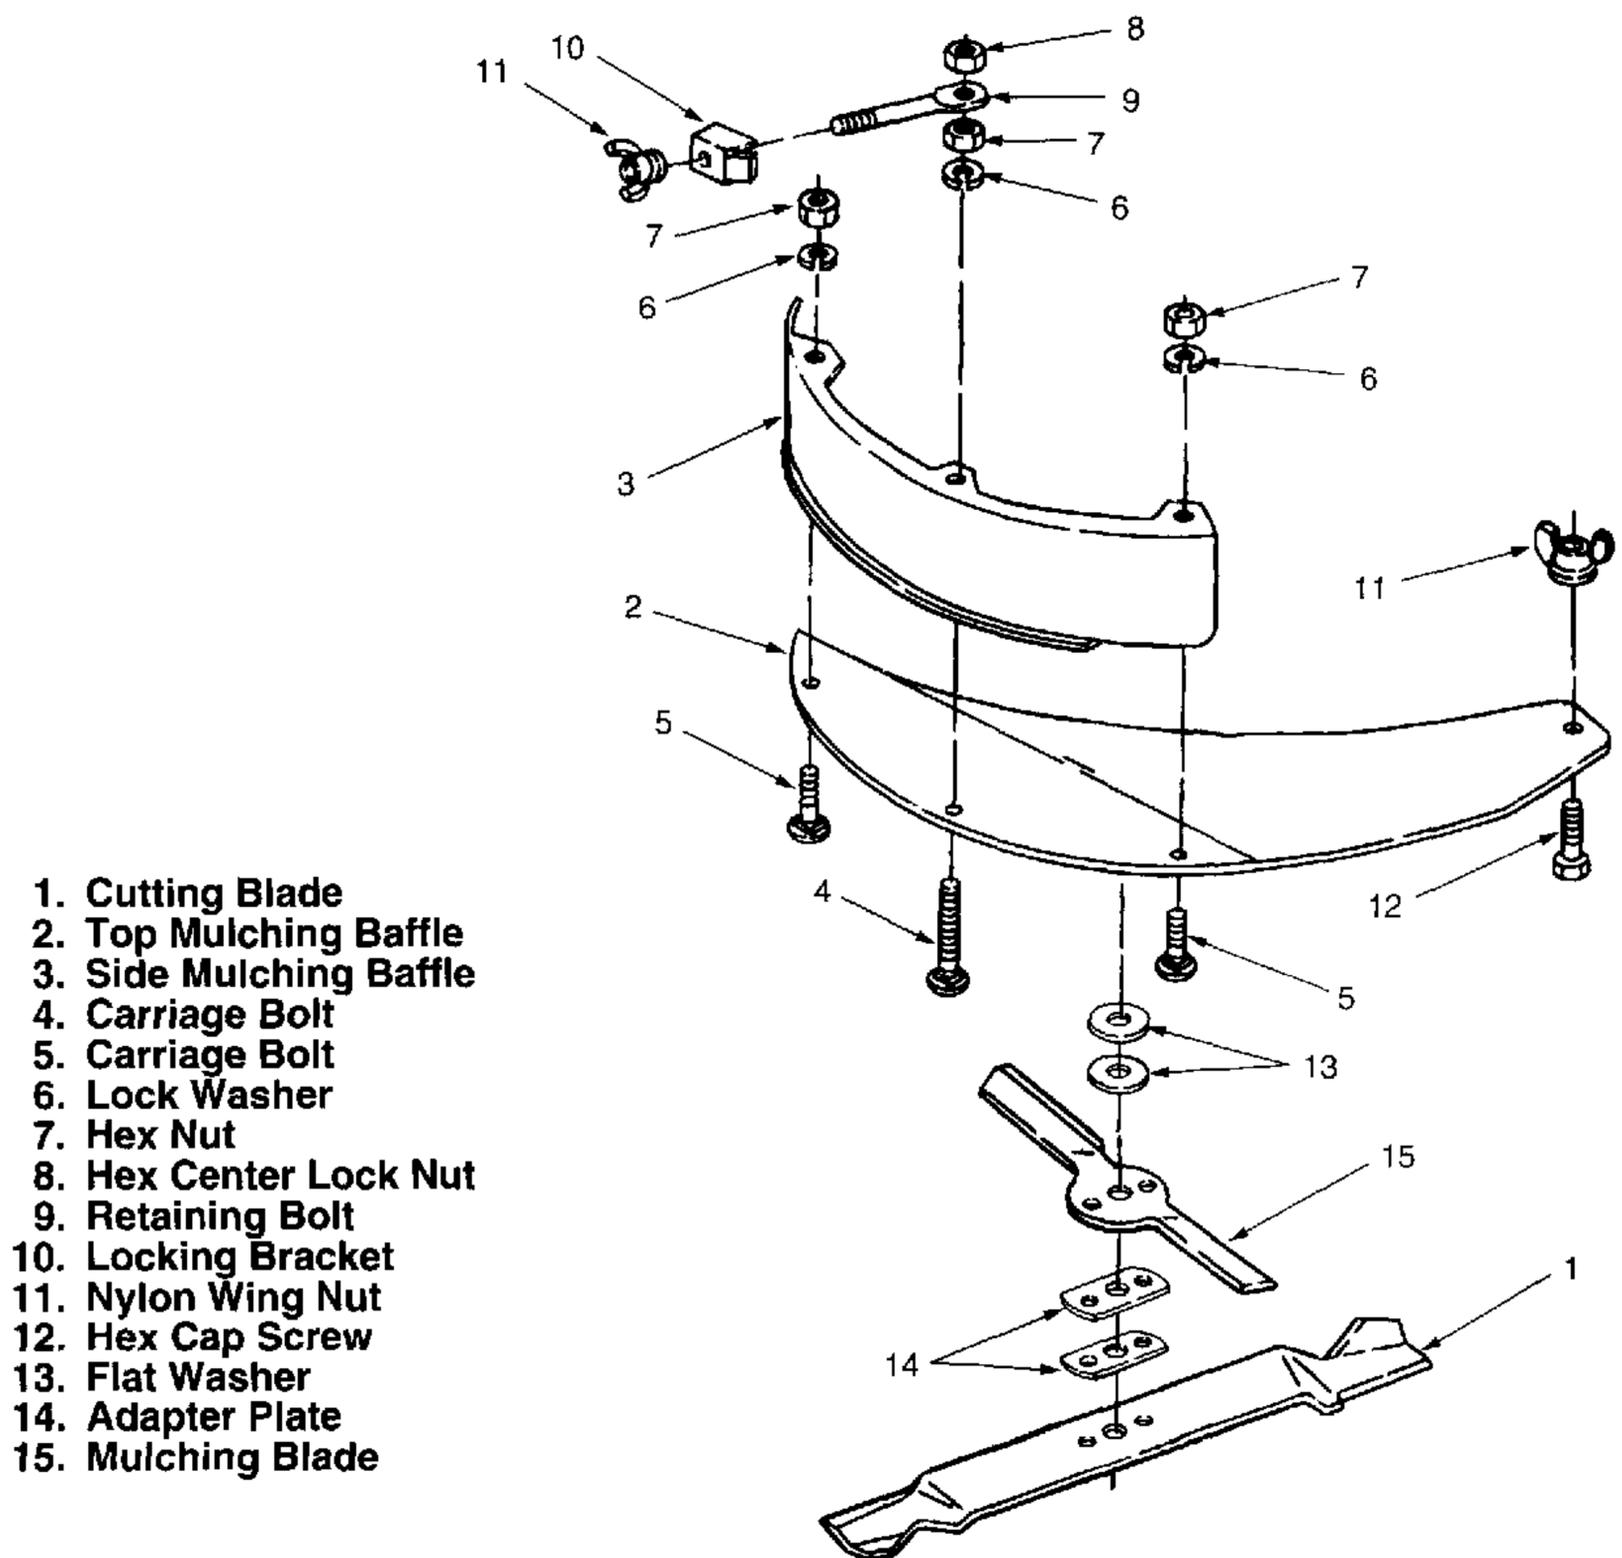

Figure 7-1. Mulching Kit Components.
7-2.1.1 Before beginning installation of the mulching attachment, refer to Figure 7-1 to confirm that all parts are included.
- Slide the two flat washers (13, Fig. 7-1) onto each spindle shaft.
- Install the mulching blades (15, Fig. 7-1), making certain the sharpened edge is forward in relation to the blade rotation (sharpened edges pitch upward toward underside of deck).
- Install the two plate adapters (14, Fig. 7-1).
- Making sure the lift wings point toward the deck housing, install the cutting blades (1) and loosely secure with the flat washers and hex nuts removed earlier.